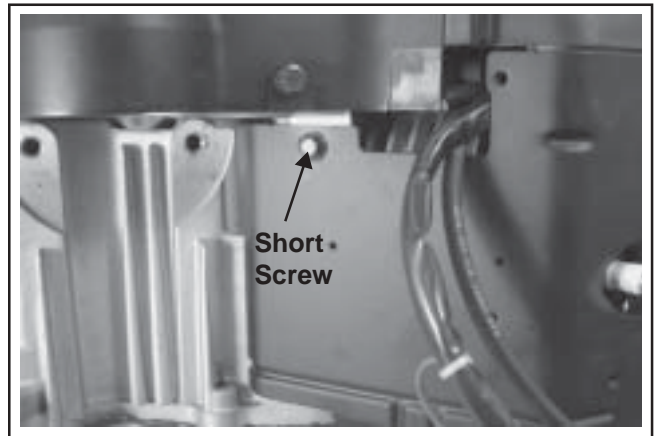

**Figure 9-26. Disconnecting Plug from Rectifier-Regulator.**
1. Disconnect the wire leads from the start switch on the blower housing (if so equipped). Disconnect the plug from the rectifier-regulator. Use the tip of the dipstick or a similar small flat tool to bend the locking tang, then remove the B+ terminal from the center position in the plug. See Figure 9-26. This will allow the blower housing to be removed without disturbing the wiring harness.